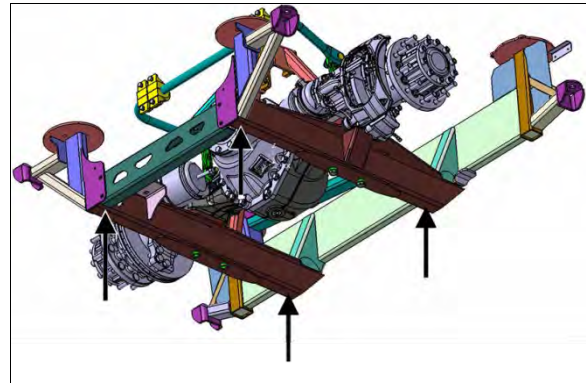

FIGURE 4: SUPPORT THE DRIVE AXLE SUBFRAME AT THE FOUR LOCATIONS SHOWN
8. Install jack stands under the drive axle subframe at the four locations shown on **FIGURE 4**.